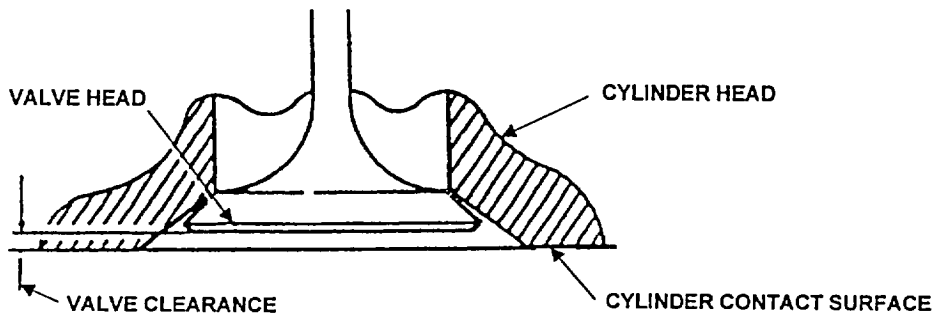

FIGURE 5-35. VALVE CONTACT POINTS
f. valve clearance is maintained (Figure 5-35).